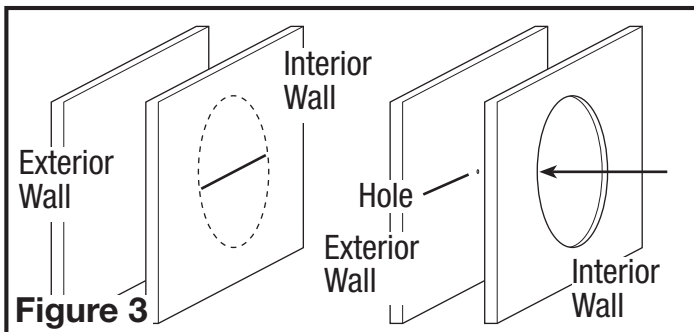

Figure 3
3. Once the installation location has been confirmed, cut a 8-1/4" diameter hole in the interior wall where the fan is to be located (**Figure 3**).
4. Drill a small hole through to the outside in the center of the 8-1/4" diameter hole, so you can properly locate the exterior housing (**Figure 3**).